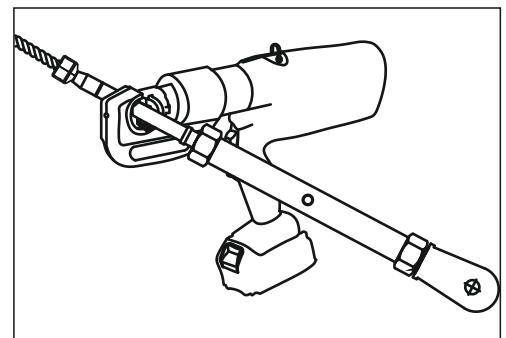

Fig:1
- Selection of the right size of Hex loc die is critical. Ensure that the hex loc Die has dimensions as in the Fig1.
Note1: The size of the Die available on the market nearest to the recommended size in Fig.1 is 50mm²
- Attach the D Shackle to the shock absorbing eye of the extremity post (see figure 1)
- Insert the cable through the intermediate tube (refer to figures 1 & 2).